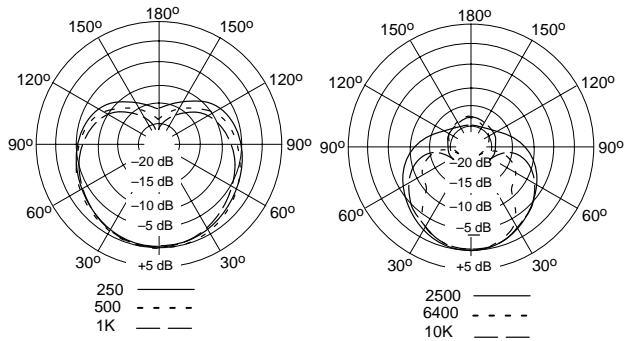

FIGURE 5. TYPICAL POLAR PATTERNS
**Cardioid.** Picks up sounds directly in front of the microphone and is least sensitive to those in back. Cardioid is the most commonly used polar pattern in studio recording and live-sound applications. See Figure 5.